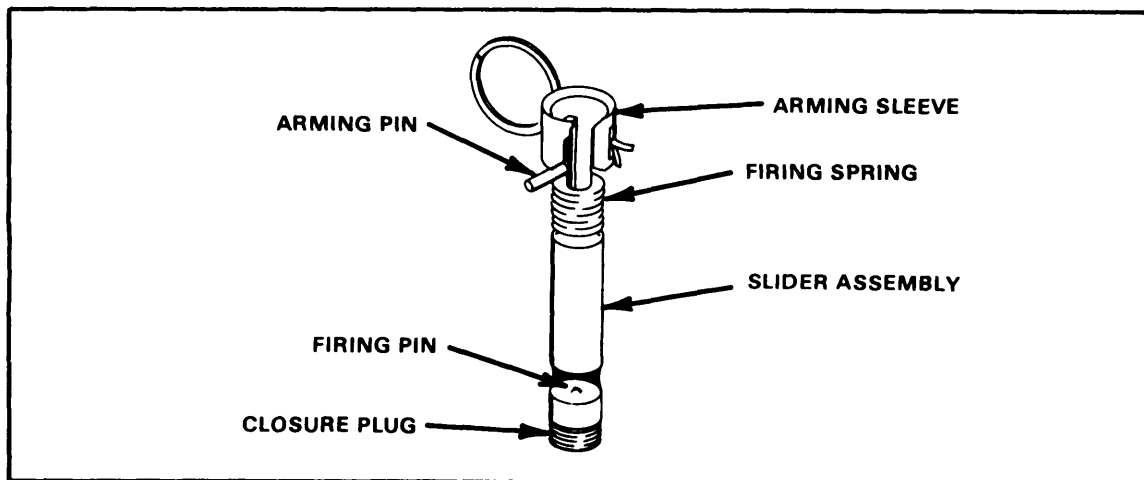

Figure 1-6. C12 integral fuze.
(4) C12 integral fuze (Figure 1-6). This fuze is an integral part of the M25-series riot control hand grenades. The fuze consists of a firing pin (screwed to the base of the grenade body), an arming sleeve, and a slider assembly. The slider assembly contains a delay element of 1.4 to 3 seconds and a small detonator. It functions as follows: